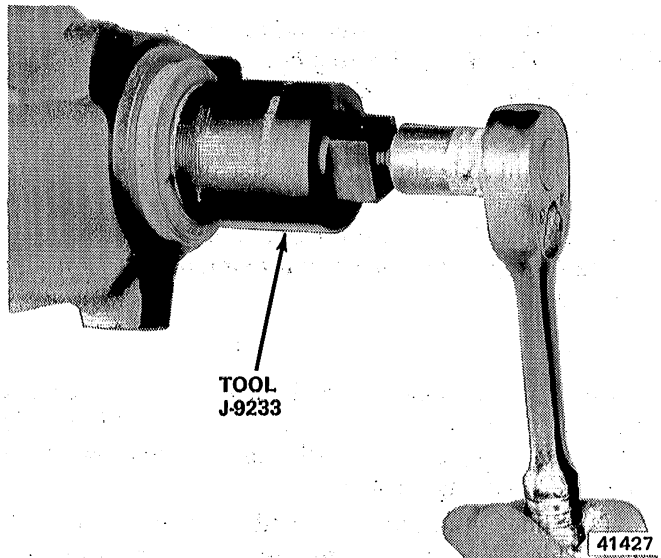

Fig. 2F-27 Pinion Seal Removal
- (9) Inspect seal surface of yoke. If surface is damaged or grooved, replace yoke.
- (10) Remove pinion seal using Tool J-9233 (fig. 2F-27).